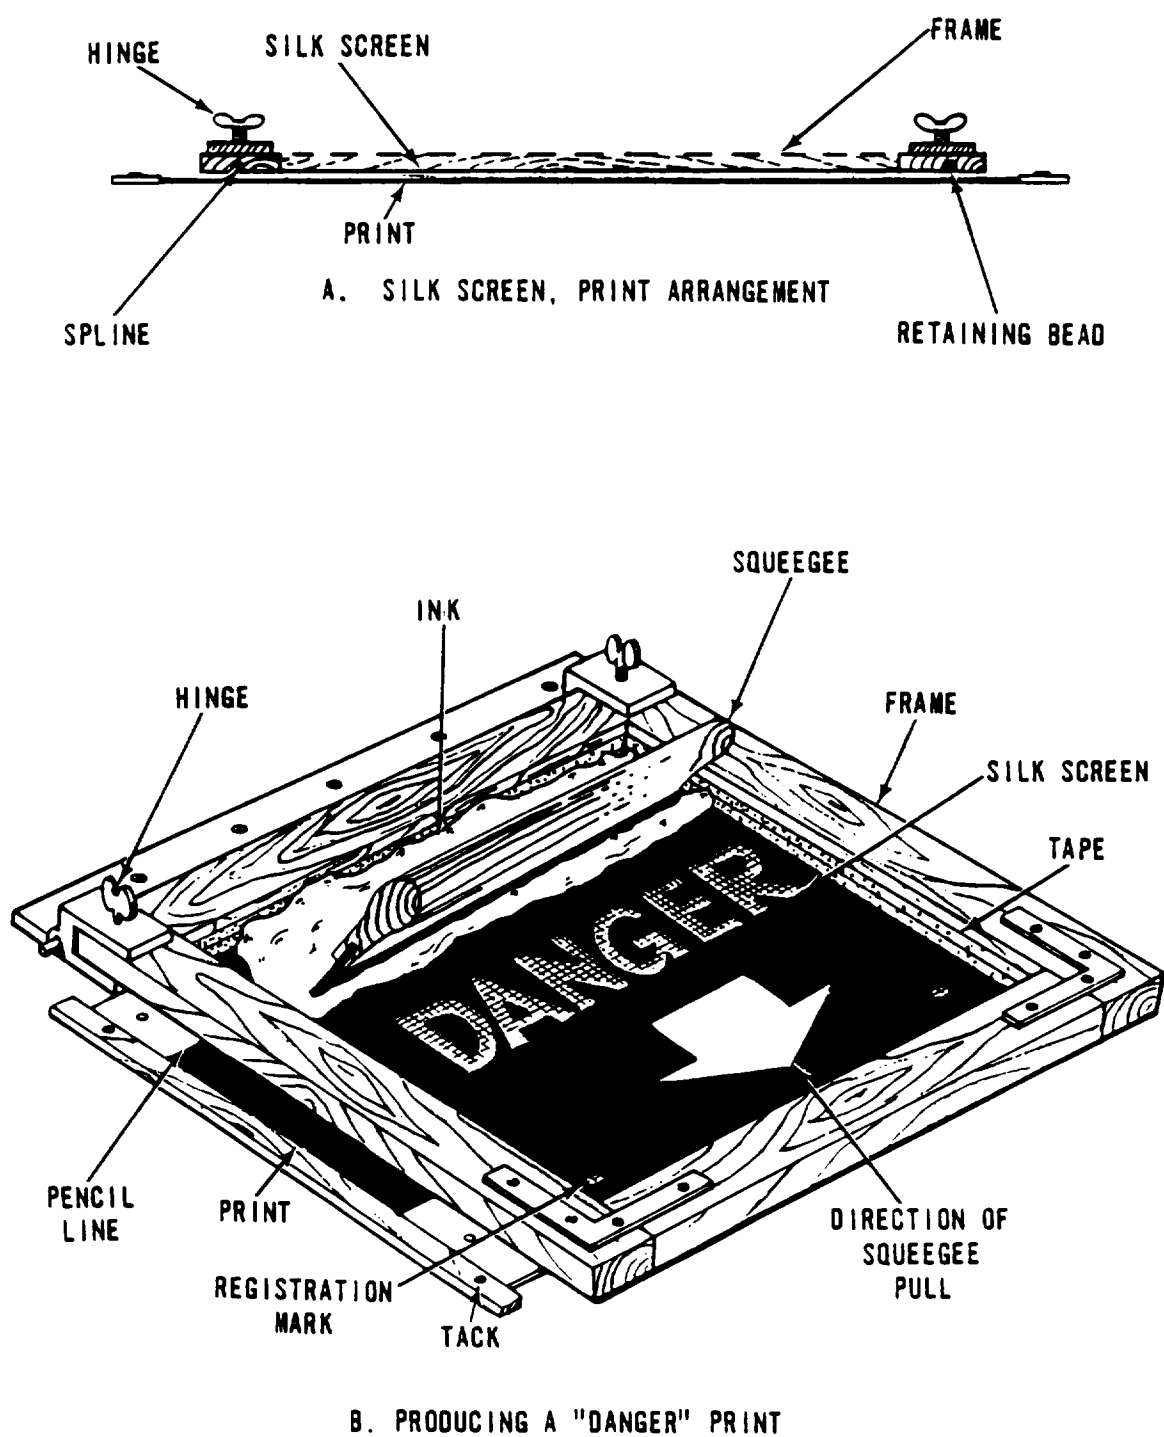

Figure 6-9. Silk Screen Process
- b. Frame.* The frame on which the silk, or a synthetic such as nylon, is attached may be a simple wooden frame or the standard grooved frames stocked by artist supply dealers in various sizes. This frame should be at least one and one-half times longer and wider than the size of the image that is to be printed (see figure 6-9).
(1) If the original sketch is the exact size of the copy to be processed, the original registration strips applied should suffice. If this is not the case, new registration strips should be set in place without disturbing or moving the layout sheet.
(2) Place one of the pieces to be printed on the table, snugly against the registration strips, and lower the silk screen.
(3) Place a small quantity of the first color of paint across the screen just above the design. Starting just above the paint, pull the squeegee across the screen while making certain to apply firm and even pressure across the width of the squeegee (see figure 6-9).